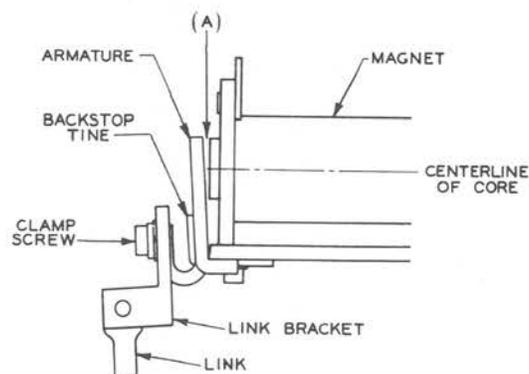

Fig. 47—Armature Air Gap
(a) When the armature is manually operated with a 0.014-inch gauge inserted in the armature air gap at the core center line [Fig. 47, (A)], the shuttle bar shall engage the latch as the shuttle bar moves inward. Use the KS-16837 gauge and gauge by eye. To check the requirement, proceed as follows.
- (1) Move the shuttle bar to the inward position by pulling up on the motor belt.
- (2) Manually operate the armature with the gauge inserted in the air gap.
(b) When the armature is manually operated with a 0.024-inch gauge inserted in the armature air gap at the core center line [Fig. 47, (A)], the shuttle shall *not* engage the latch as the shuttle bar moves inward. Use the KS-16831 gauge and gauge by eye. To check the requirement, proceed as follows.
**2.68 Armature Air Gap:** With the magnet armature engaging the backstop tines, the gap [Fig. 47, (A)] between the armature and magnet core, measured at the core center line, shall be